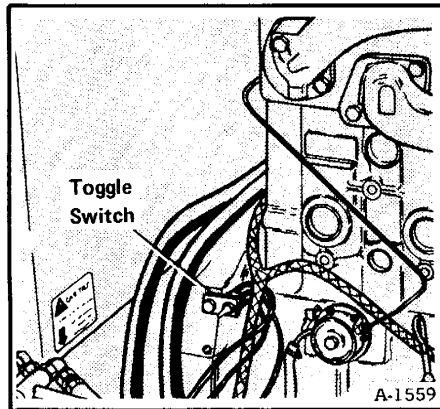

Fig. 19 Control Switch
4. Actuate the toggle switch located on left front engine mount (Figure 19). Lift switch up to tilt enclosure forward, push down to lower. Check when tilting to insure control levers clear.